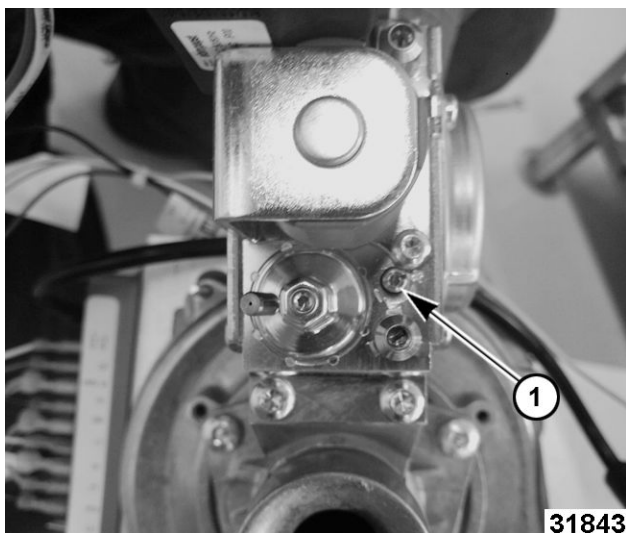

Fig. 47
- C. Turn adjustment screw (1, Fig. 47) all the way in until it bottoms out.